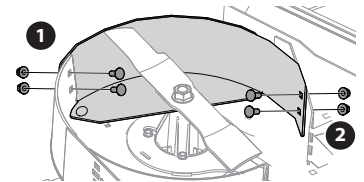

Figure 6
- b. Working from inside out, secure discharge baffle to outside wall of deck with two carriage bolts (710-3168) and two hex flange nuts (712-05007). See (1) in Figure 6.
- c. Stabilize discharge baffle by connecting it to previously installed center bracket with two carriage bolts (710-3178) and two hex flange nuts (712-05007). See (2) in Figure 6.